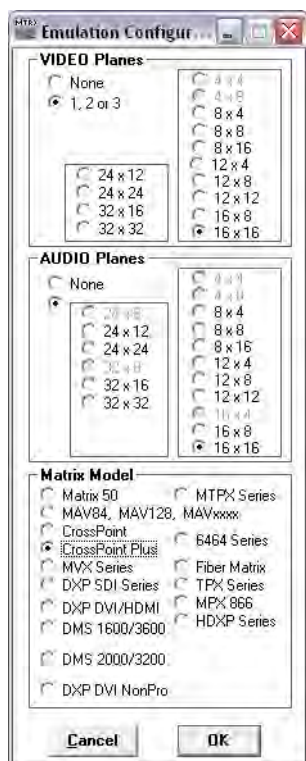

Figure 78. Emulate Configuration Dialog Box
5. See figure 78. Select the appropriate Matrix Model (**CrossPoint Plus** = 450 Plus, **CrossPoint** = Ultra, and **MAV84**, **MAV125**, **MAVxxx** = MAV Plus), the number of Video Planes and Audio Planes (or **None**), and the appropriate matrix size. Click **OK**.